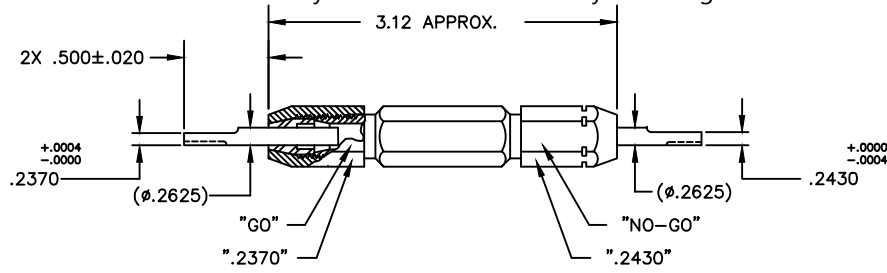

FIGURE 1-NEW DESIGN
- IF THE GAGE MEMBER IS WITHIN THE LIMITS SHOWN IN FIGURE 1 AND 1A, IT IS SERVICEABLE AND MAY BE RE-INSTALLED IN THE GAGE.